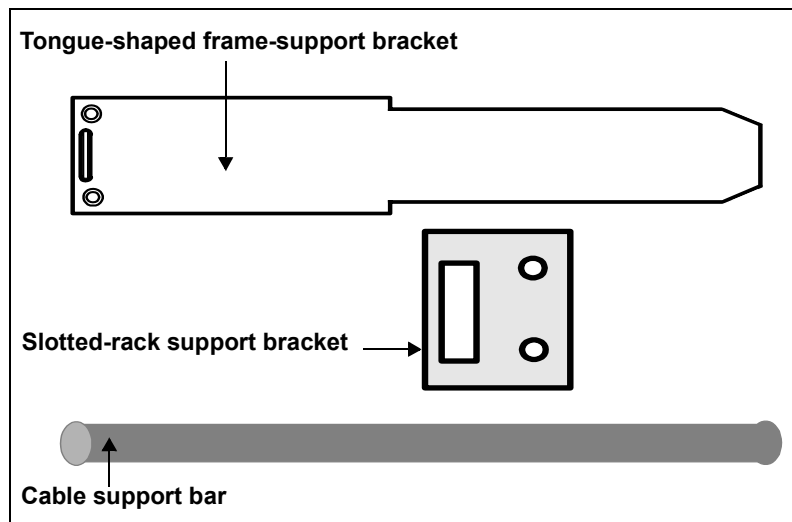

Figure 2-1. Support Brackets and Cable Support Bar
1. Locate two tongue-shaped frame-support brackets, two slotted rack-support brackets, and one cable support bar from the packing box (if ordered). See Figure 2-1.